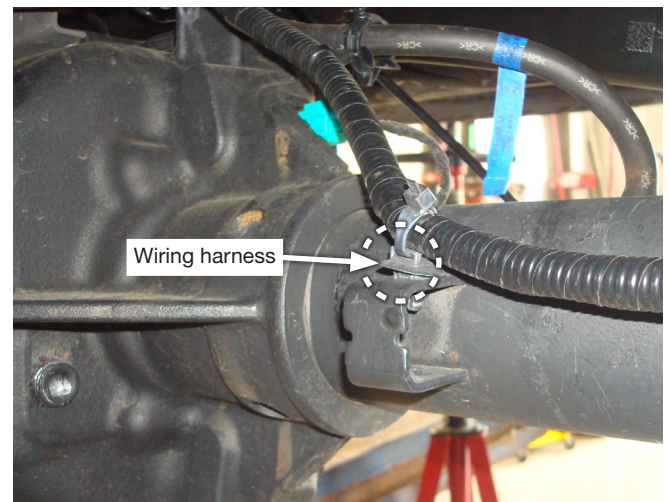

Fig. 3
2. Disconnect the wiring harness on the front side of the left- and right-side axle brackets (Fig. 3).